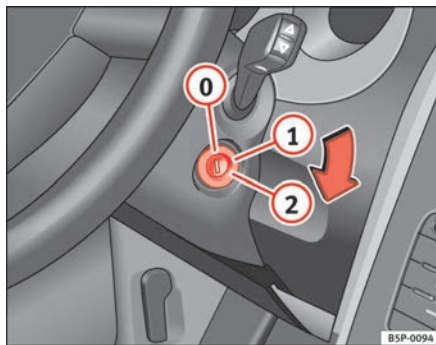

Fig. 137 Ignition key positions
In the position ⇒ fig. 137 the ignition and the engine are OFF and the steering may be locked.
- Turn the ignition key to position ⇒ page 163, fig. 137 ①. The indication lamp  will light for engine pre-heating.
- When the warning lamp goes out, turn the key to position ② to start the engine. Do not press the accelerator.
- Turn the ignition key to position ⇒ page 163, fig. 137 ①.